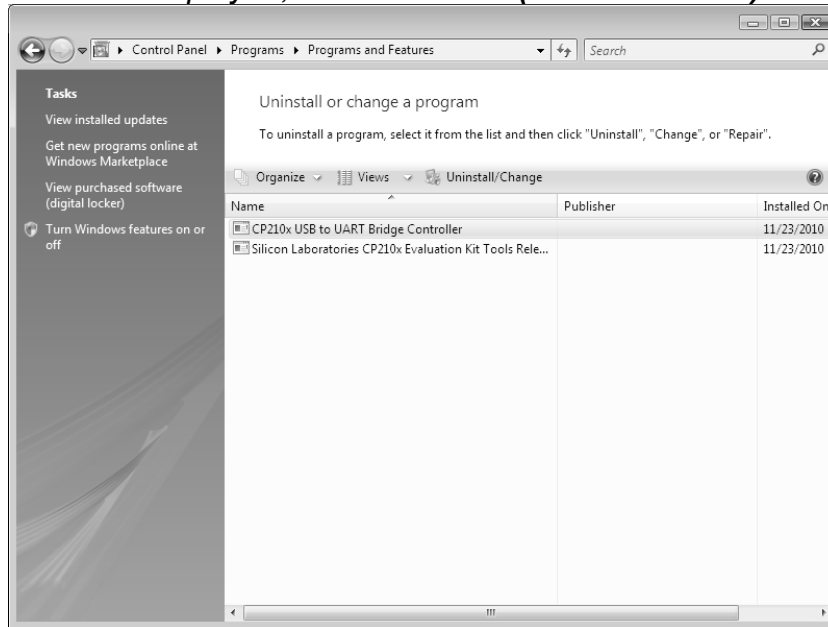

Fig. 82 Uninstall or change a program
(1) Select uninstall program in the control panel.
- (2) The "Uninstall or change a program" screen in Fig.82 appears.